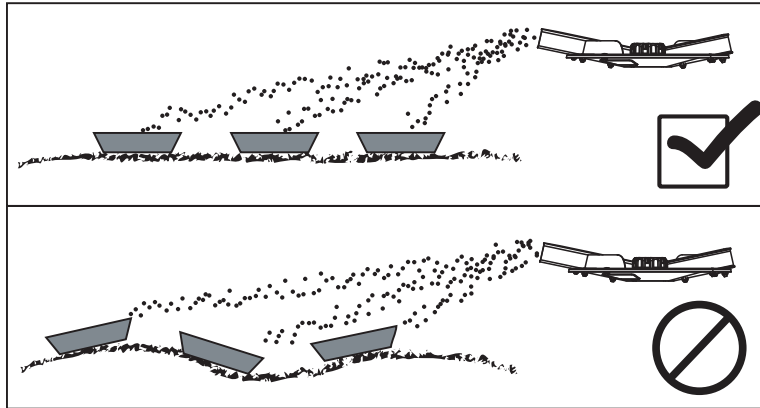

Figure 7.17: Layout of the catch trays
- Set the trays horizontally. Slanted trays may cause measurement errors (figure 7.17).